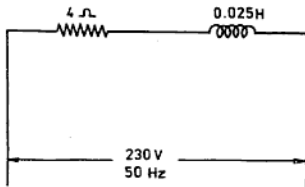

Fig. RQ 11.4
- 11.4 Explain what do you understand by the term impedance of a circuit. Calculate the current taken, power input and angle of lag for the circuit in Fig. RQ 11.4. (NCVT 1970 W/man) (Ans.  $26.13 \text{ A}$ ,  $2731 \text{ W}$ ,  $62.58^\circ$ )